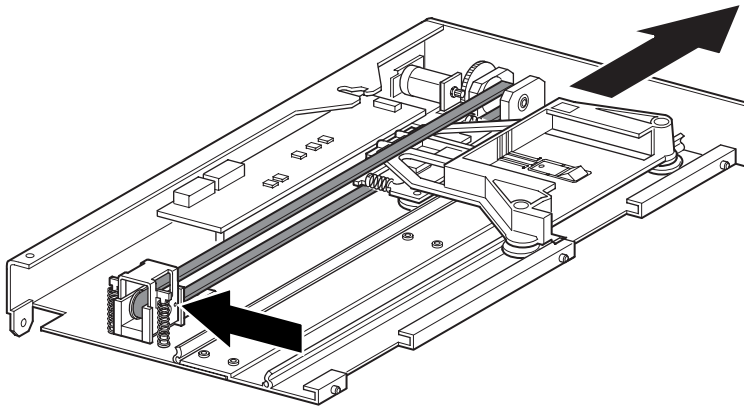

Figure 14 Media elevator car location
2. Slide the media elevator car to the top of the PTM base unit (see Figure 14). Note that the top of the PTM base unit has the drive motor on it.
4. Position the media elevator car over the belt block access cutout (see Figure 14 on page 25).